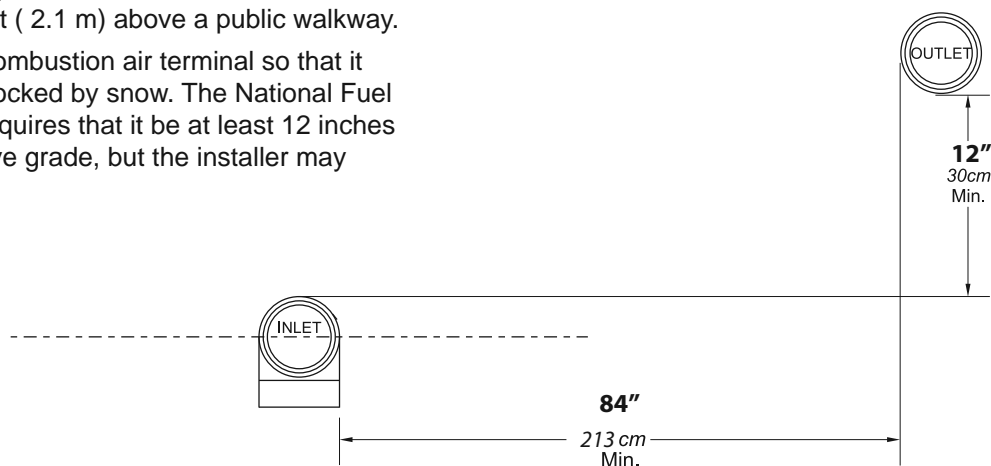

Figure 5. Minimum Venting Distance
1. Figure 5 on page 15 shows the requirements for mechanical vent terminal clearances for the U.S. and Canada.
7. If the boiler or water heater uses ducted combustion air from an intake terminal located on the same wall, see See Figure 6 and Figure 5 for proper spacing and orientation.
4. If the Unit is side-wall vented to the same wall, use Figure 5 to determine the proper mounting locations.